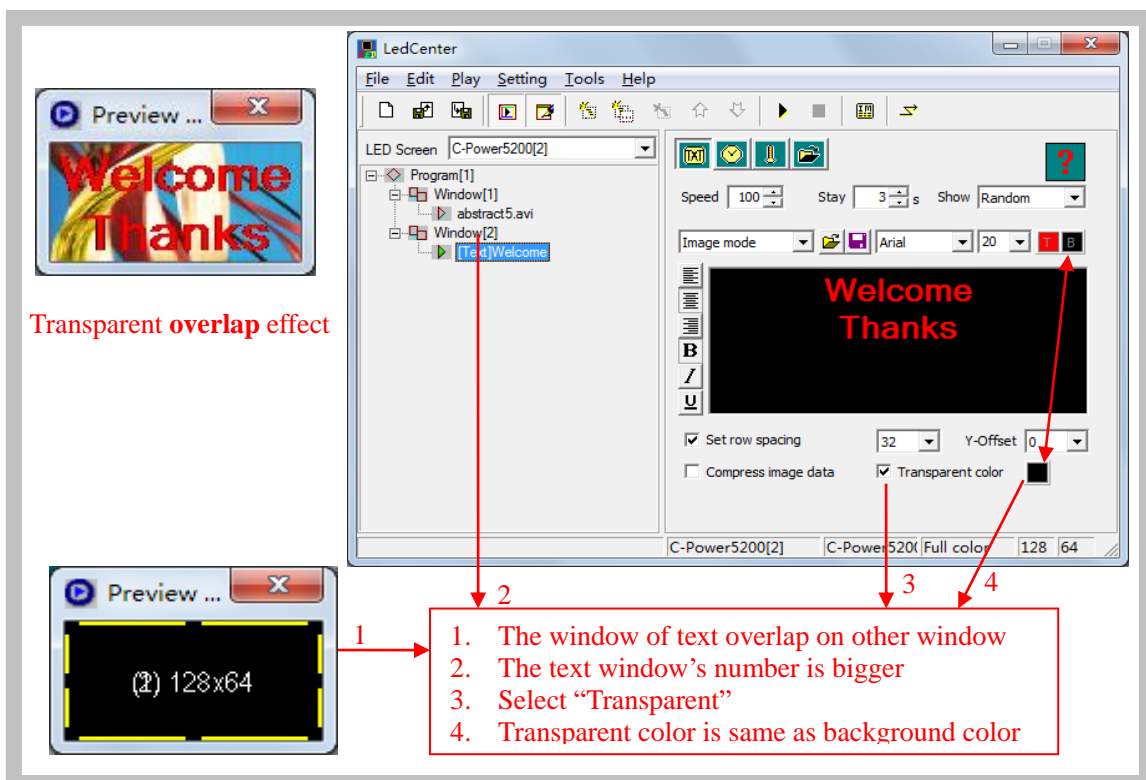
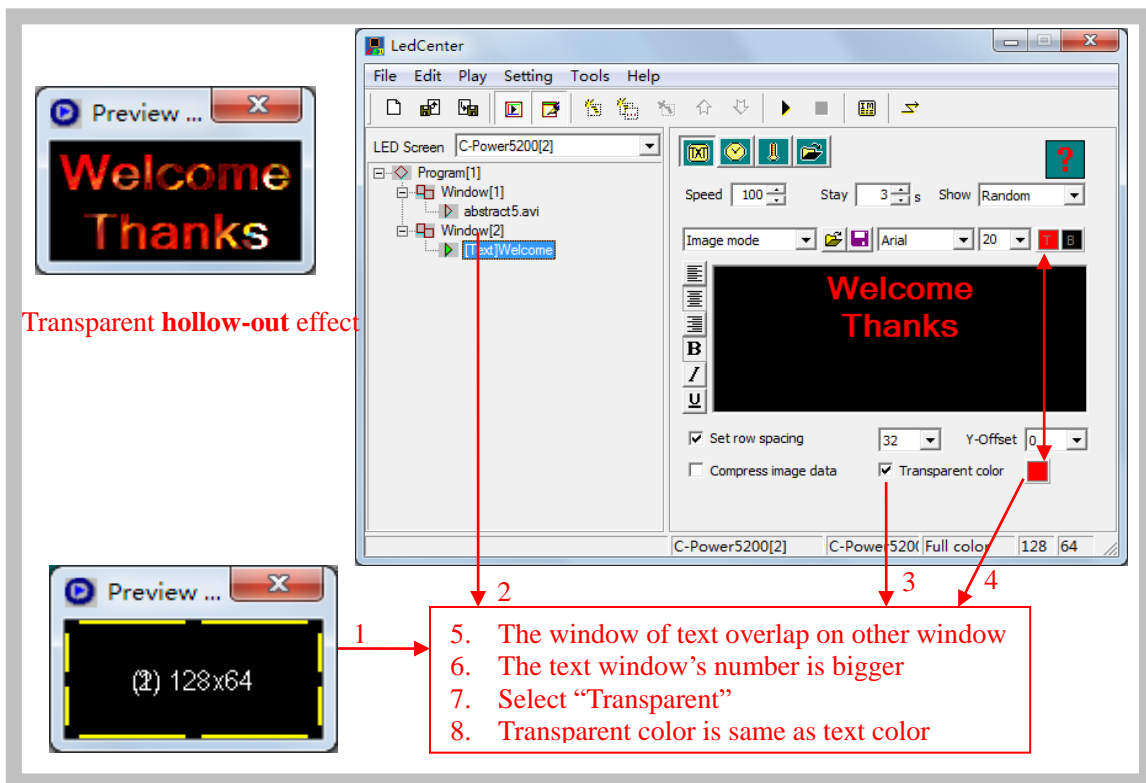

Figure23 Text transparent overlap setting
Figure24 Text transparent hollow-out setting
- **Transparent or hollow-out:** Text program can set to be transparent or hollow-out, and overlay to picture, animation or video programs, as Figure23 and Figure24 shown.
Text program can set to be transparent or hollow-out, and overlay to picture, animation or video program's window, as Figure23 or Figure24 shown. The following setting should be set:
- When the transparent colour is the background colour, the text is transparent overlap on the overlapped window's content (as Figure23 shown).
- When the transparent colour is the text colour, the text is hollow-out to show the overlapped window's content (as Figure24 shown).